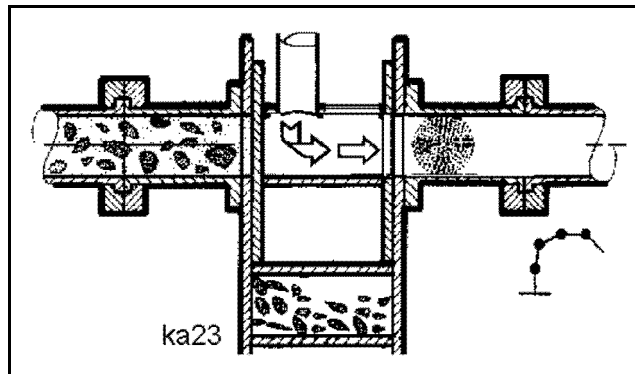

Fig. 467
- Retract the chamber and move the ball into the pumping line with a short blast of air (**Fig. 467**).